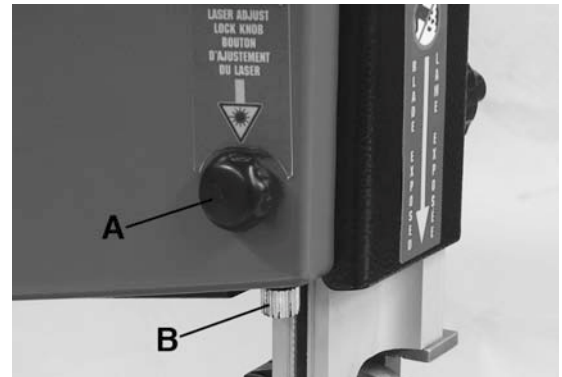
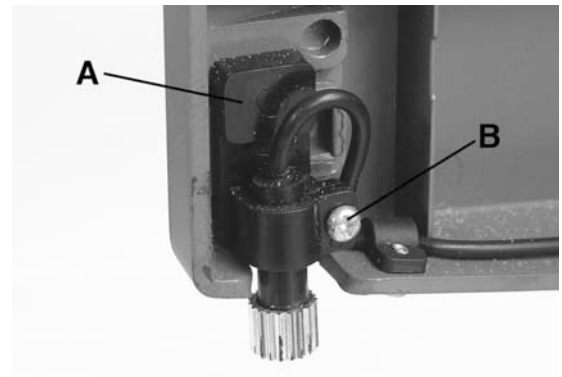

FIGURE 16
FIGURE 17
- 1) Loosen laser guide adjust knob (A) Fig.16.
- 3) Align the laser tip (B) Fig.16 with the blade by moving the laser assembly (A) Fig.17 side to side, you can also turn the laser tip by loosening the fixing screw (B) Fig.17 until the laser beam is perfectly aligned with the blade kerf, once aligned, hold laser tip, retighten laser guide adjust knob and fixing screw.